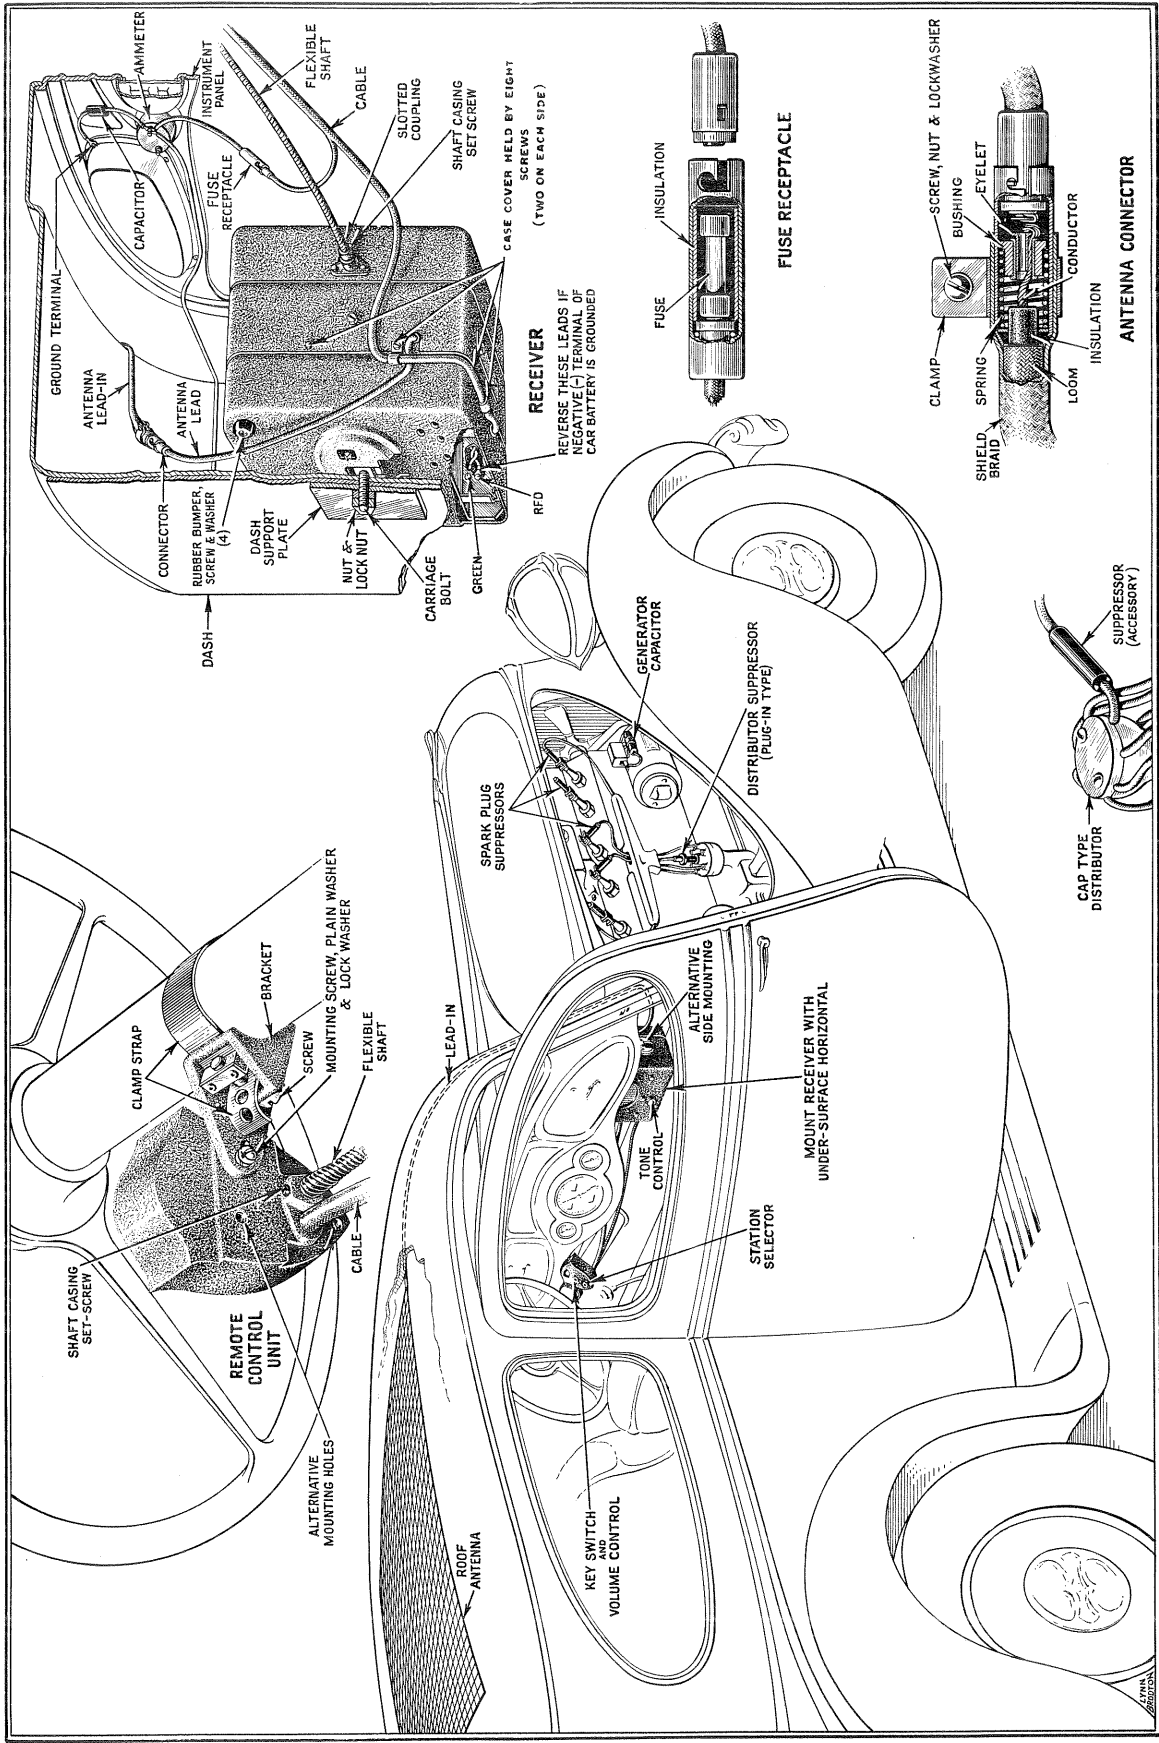

Figure 1
2. **CHECK POLARITY OF AUTOMOBILE STORAGE BATTERY SUPPLY.** If the negative (—) side is grounded to car frame, remove case cover and make changes to chassis connections shown in Figure 1. *Do not disturb these connections if positive (+) side is grounded.* (See details under "Mounting of Units"—page 5.) Replace case cover.
3. Determine most satisfactory mounting position (see details under "Location of Units"—page 4), spot mounting-bolt location and drill $\frac{1}{2}$ " diameter hole. Insert bolt through dash and assemble support plate and nuts on engine side. Install the four rubber bumpers on side of case chosen for mounting, then hang receiver over bolt head and tighten nuts. (See Figure 1 and details under "Mounting of Units"—page 5.)
4. Attach remote control unit to steering column by means of mounting bracket and strap. (See Figure 1 and details under "Mounting of Units"—page 5.)
5. Assemble flexible shaft to receiver and remote control unit. (See Figure 1 and details under "Mounting of Units"—page 6.) *Make sure that the set-screws are tightened firmly against both ends of shaft casing.*
7. Connect terminal at end of *black* lead from cable to binding-post of automobile ammeter (see Figure 1 and details under "Connections"—page 7). The ignition by-pass capacitor (equipped with two leads) should be installed at this time. (See Figure 1 and paragraph 4 under "Suppression of Ignition Interference"—page 7.)
8. Install spark-plug and distributor suppressors; also generator by-pass capacitor (see Figure 1 and paragraphs 1, 2 and 3 under "Suppression of Ignition Interference"—page 7).
Receiver and Remote Control Units—The arrangement of units shown in Figure 1 is recommended and will be found applicable to the majority of automobiles. Consideration should be given to the possibility of interference of the receiver with other equipment beneath the instrument panel or of the mounting bolt with apparatus on the engine side of the dash. By placing the receiver unit toward the right-hand side of the dash, the flexible shaft will be of correct length as furnished in practically all cases. This position, however, may be considered impractical because of its universal preference for heating devices, necessitating installation of the receiver unit either near the center or at the extreme left-hand side of the dash and the use of a shorter flexible
Details of mounting the various units are shown in Figure 1. The following procedures are recommended:
Receiver Unit—It is necessary first to determine the electrical polarity of the storage battery supply. This may be done most conveniently by making an examination of the battery connections and ascertaining which terminal is grounded (that is, connected to the frame of the car). The positive terminal is usually marked (+) and tends to form corrosion far more rapidly than the negative (—). If the positive terminal is grounded, no change in the electrical connections of the receiver unit will be required. However, if the opposite is true, the cover of the receiver case must be removed and the red and green leads (attached by spade-type connectors to the two terminals nearest the bottom of the chassis terminal board) shown in Figure 1 must be reversed.
Remote Control Unit—In attaching the remote control unit to the steering column of the car, it will be advisable first to examine the detailed view (in Figure 1) showing the assembly of its mounting bracket. Four small holes are contained in the associated flexible strap at distances proper for use with steering columns of the most common diameters ($1\frac{1}{2}$, $1\frac{3}{8}$, $1\frac{3}{4}$, $1\frac{7}{8}$ inches) but the strap length will be found sufficient to permit the insertion of an additional hole if necessary to accommodate a 2 inch column. The proper hole may be determined by wrapping the clamp strap tightly around the column, inserting the machine screw furnished through that hole found to be nearest in alignment with the tapped hole in the clamp bracket. Three tapped holes are provided in the back of the remote control unit, permitting support of that unit either at the right- or left-hand side or above the steering column.
Refer to Figure 1 and make connections as follows:
Refer to the detailed view of the antenna connector shown in Figure 1 and proceed to attach the lead-in wire (if shielded) as follows: First, cut the end of the lead-in so that the internal insulated wire and loom (if present) are flush with the end of the shield covering and push back the shield approximately 1 $\frac{1}{2}$ inches. Cut the loom to the end of the
1. Disconnect all wires from the spark plugs. Fasten one spark plug suppressor to the top of each plug and re-attach the wires to the free ends of the suppressors. These suppressors may be mounted either in line with or at right angles to the plugs (as shown in Figure 1) in order to avoid interference with metallic parts grounded to the engine or frame.